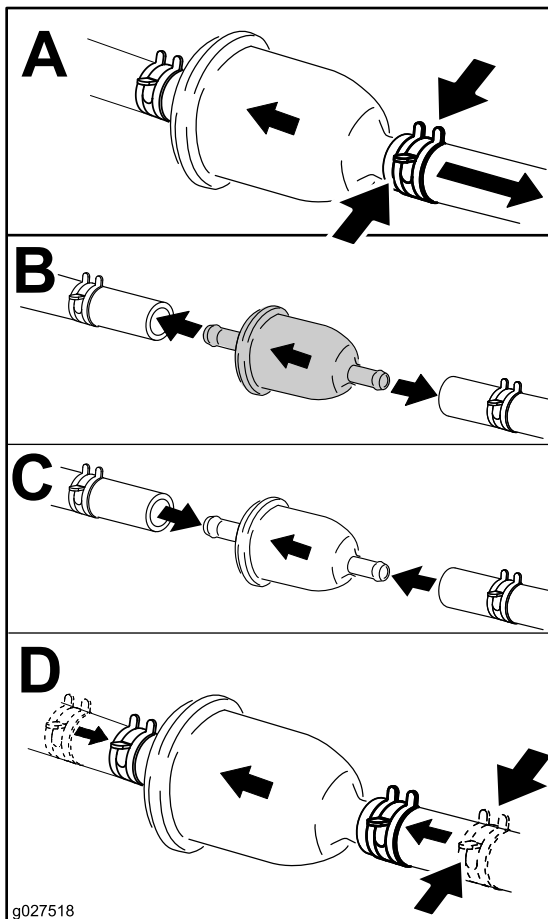

Figure 45
4. Replace the fuel filter as shown in Figure 45.